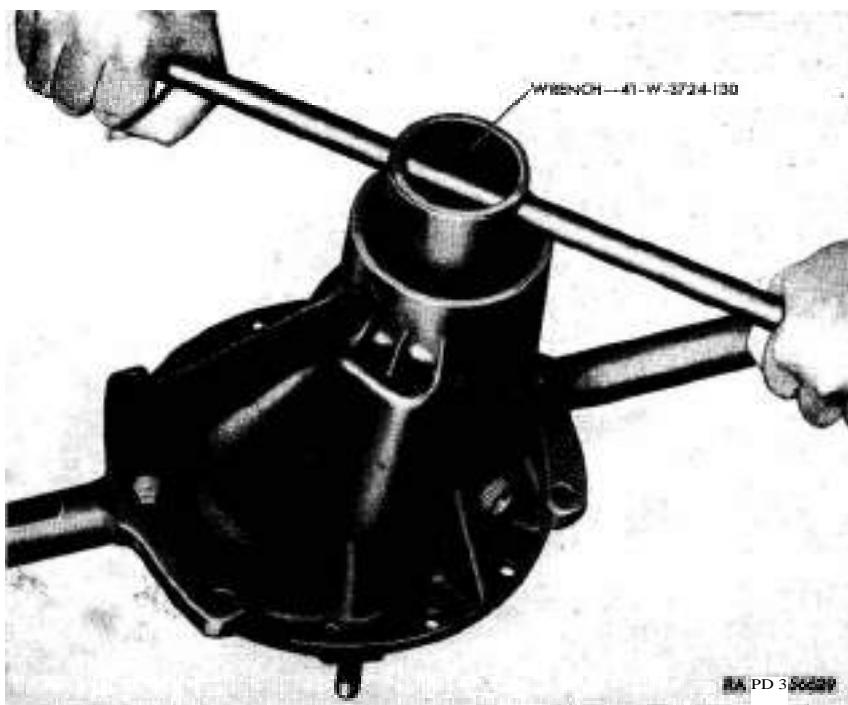

Figure 80. Removing drive pinion front bearing cup retaining nut.
- (1) Remove drive gear thrust screw pad (P).
- (2) Remove drive pinion (XX) and drive pinion front and rear bearing cones (R and YY) from carrier as an assembly.
- (3) Position carrier in stand (oil seal end up) and remove 5/16-18NC x $\frac{3}{4}$ set screw (J), which is provided as a lock for the drive pinion front bearing cup retaining nut (E).
- (4) Remove drive pinion front bearing cup retaining nut with wrench 41-W-3724-130 (fig. 80) and drive pinion front bearing outer cone (G).
- (5) Remove drive pinion front and rear bearing cups (H and V) from carrier with a brass drift and hammer. Openings are provided in the carrier casting for the brass drift.
- (6) Break weld at drive gear thrust screw check nut (AG) with a sharp chisel. Remove drive gear thrust screw (AH) and nut.
- (3) Install drive pinion front bearing cup retaining nut (E) and tighten nut with wrench 41-W-3724-130 (fig. 80).
- (4) Install 5/16-18NC x $\frac{3}{8}$ set screw (J) in oil seal end of drive pinion carrier to prevent loosening of the retaining nut.
d. Install Drive Pinion Rear Bearing Cone. Install drive pinion rear bearing cone (YY) on drive pinion (XX) with an arbor press. Make certain the cone is firmly seated against pinion.